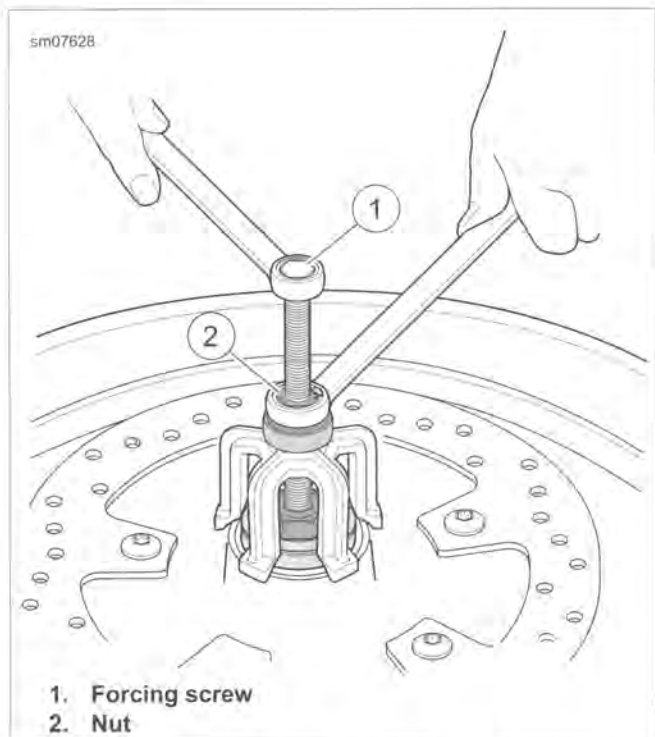

Figure 2-33. Removing Bearing
6. Insert collet into bearing. Hold forcing screw (1) and turn hex on collet (6) until lip makes firm contact with inside edge of bearing.
7. See Figure 2-33. Turn hex nut (2) until bearing is free. Discard bearing.